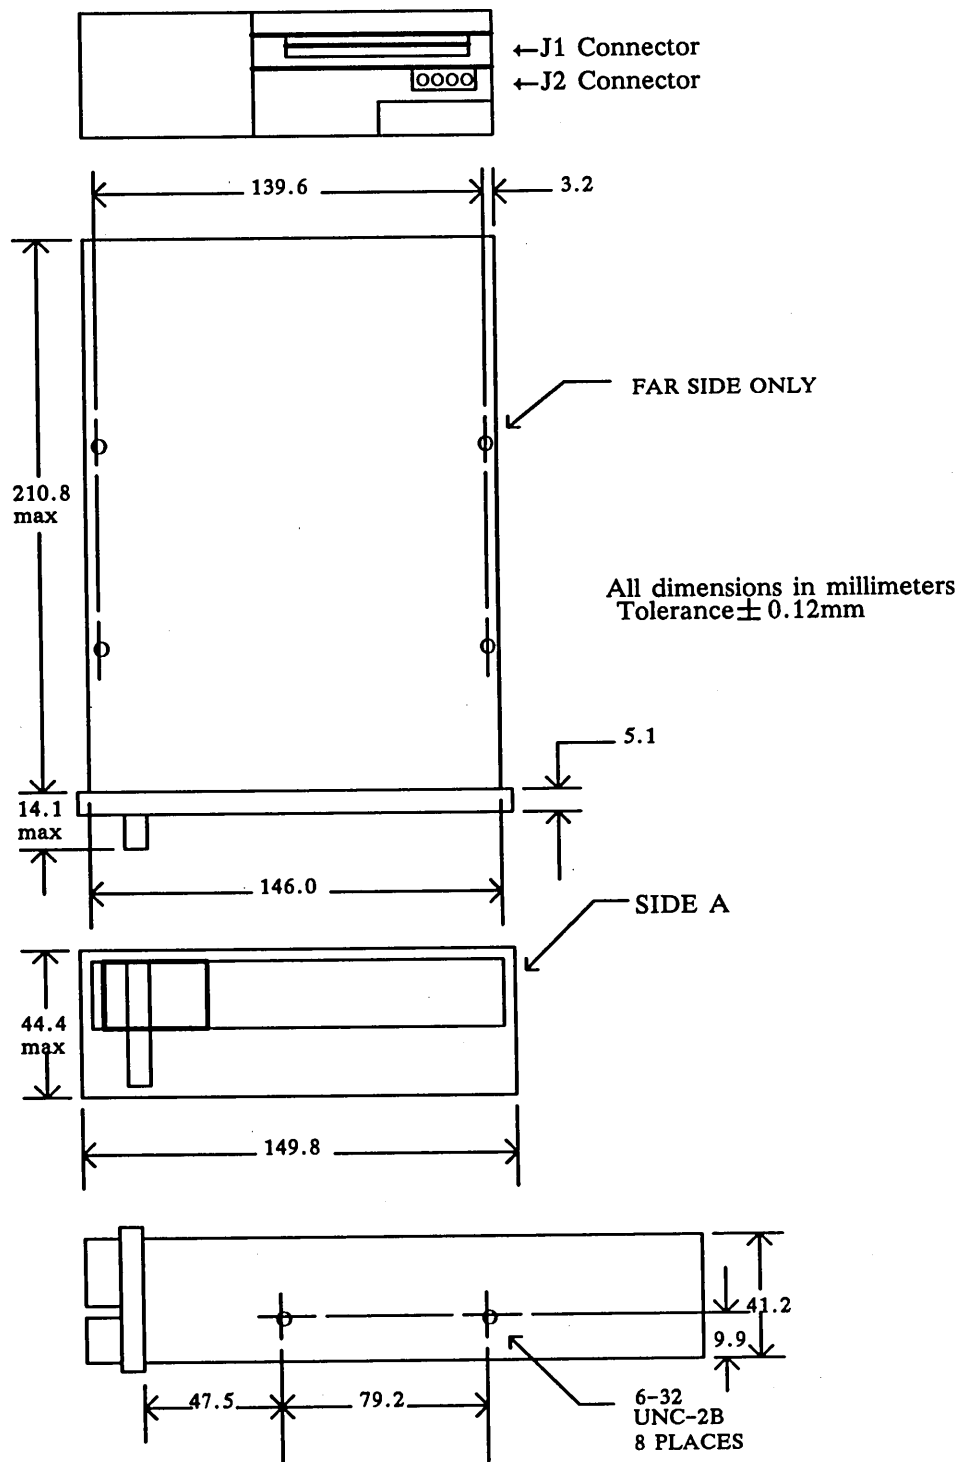

Figure 9-2. Tape Drive Exterior Dimensions and Mounting Holes
- Orientation: Horizontal with "Side A" down, or vertical on long side ("Side A" to left) without realigning the tape head (see Figure 9-2)
Figure 9-2 shows the exterior dimensions and mounting holes of the cartridge tape drive.